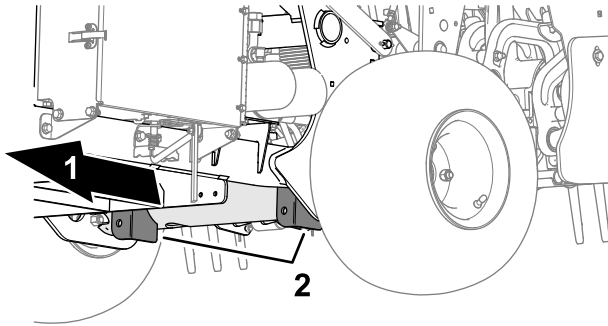

Figure 139
3. Place the jack securely under the frame plate just inside of the rear wheel (Figure 139).